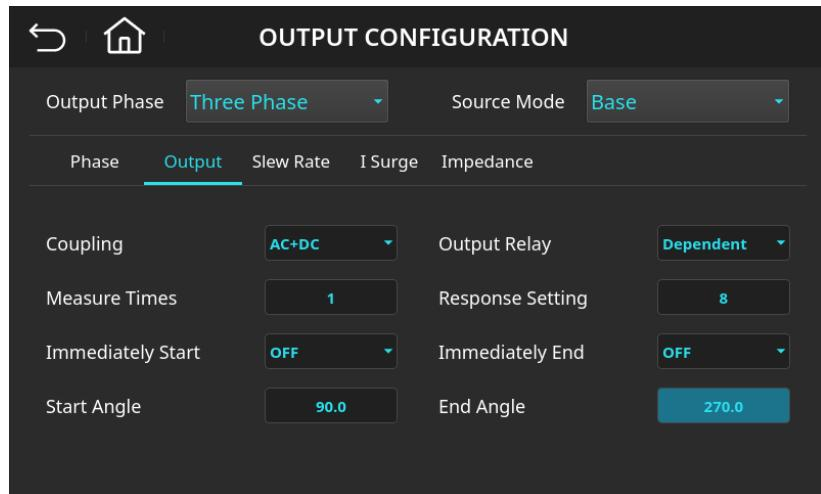

Figure 4-40: Output Configuration (Output) Page – Start Angle Set to 90° and End Angle Set to 270°
5. Enter **2**, **7**, **0**, then press the **Enter** key. The value will change to “270.0”, as shown in Figure 4-40.